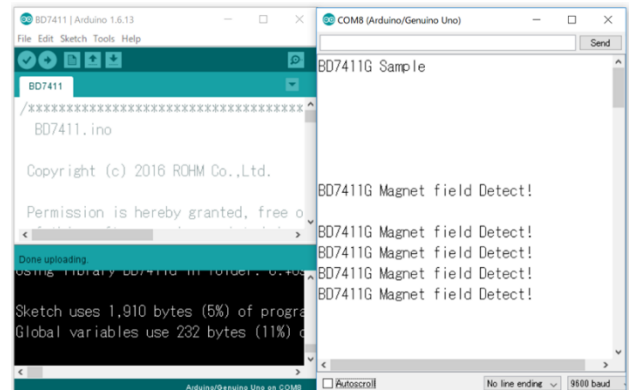

Figure 6. Serial Monitor
7. Check log of Serial Monitor (Figure 6) "BD7411G Magnet field Detect!" is displayed when the magnet is placed near the sensor board.